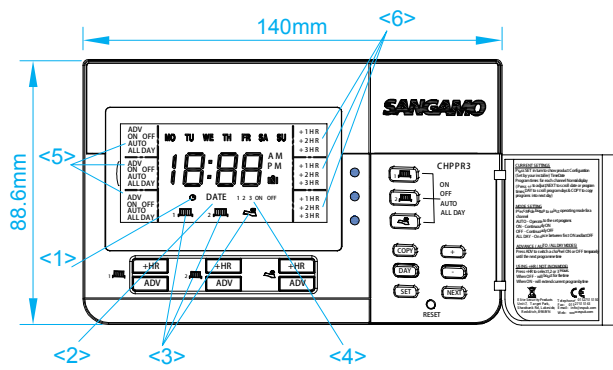

Fig.1
2.1 Open the front cover to show the hidden panel (as Fig. 1), and complete all the settings as per below operation guide.